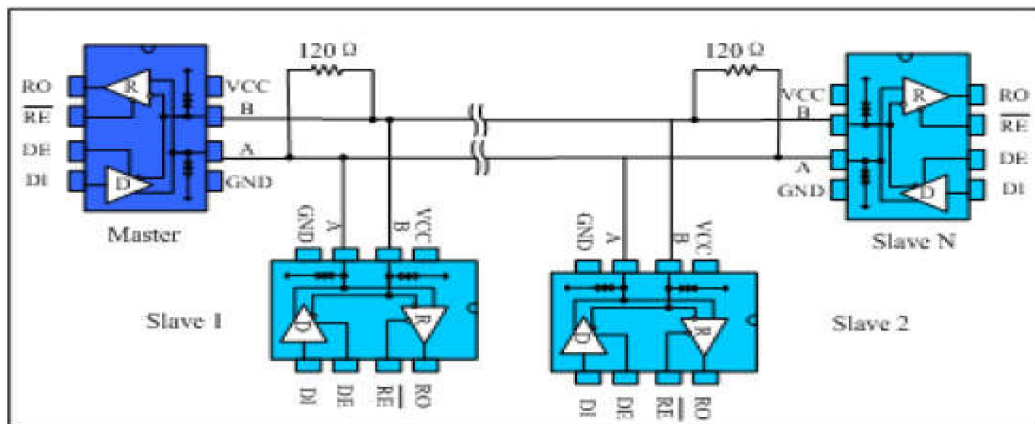

Fig. 9 Bus-type RS485 half-duplex communication network
4.1 Bus networking: The MAX481CSA-TD RS485 transceiver is designed for bidirectional data communication on multi-point bus transmission lines. Figure 9 shows a typical network application circuit. These devices can also be used